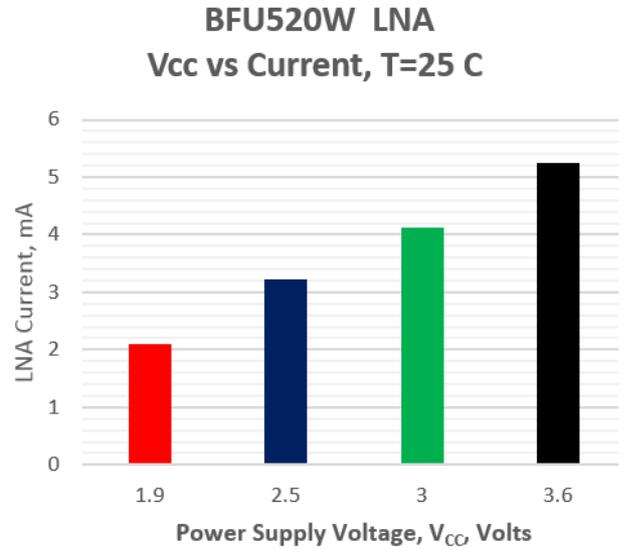
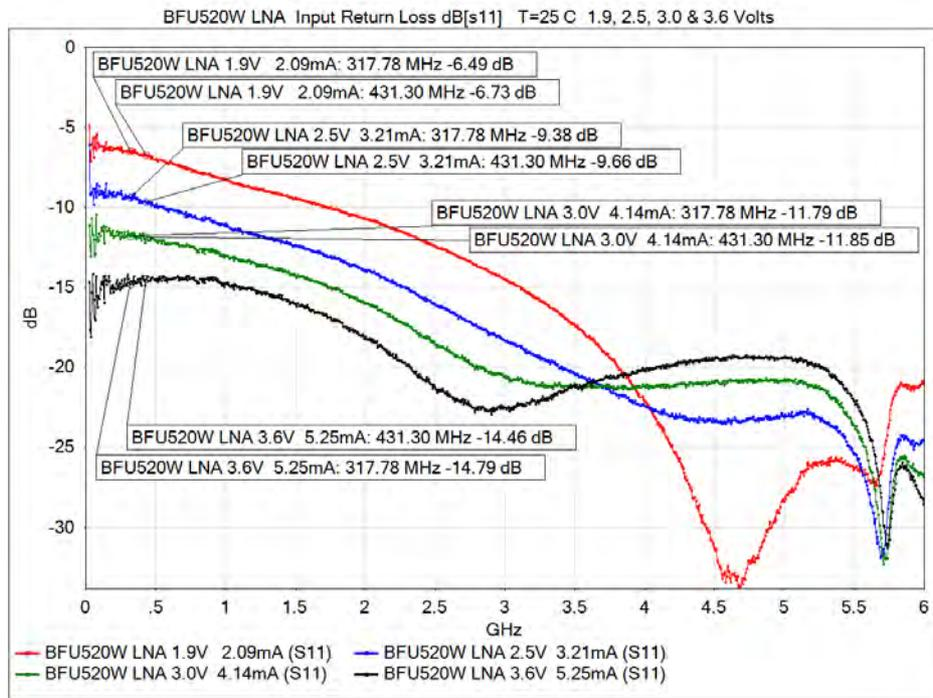
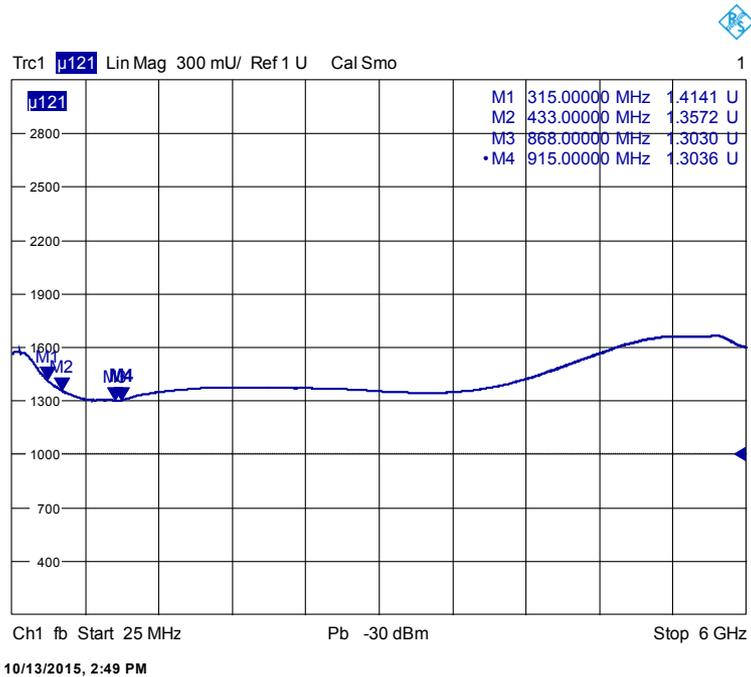
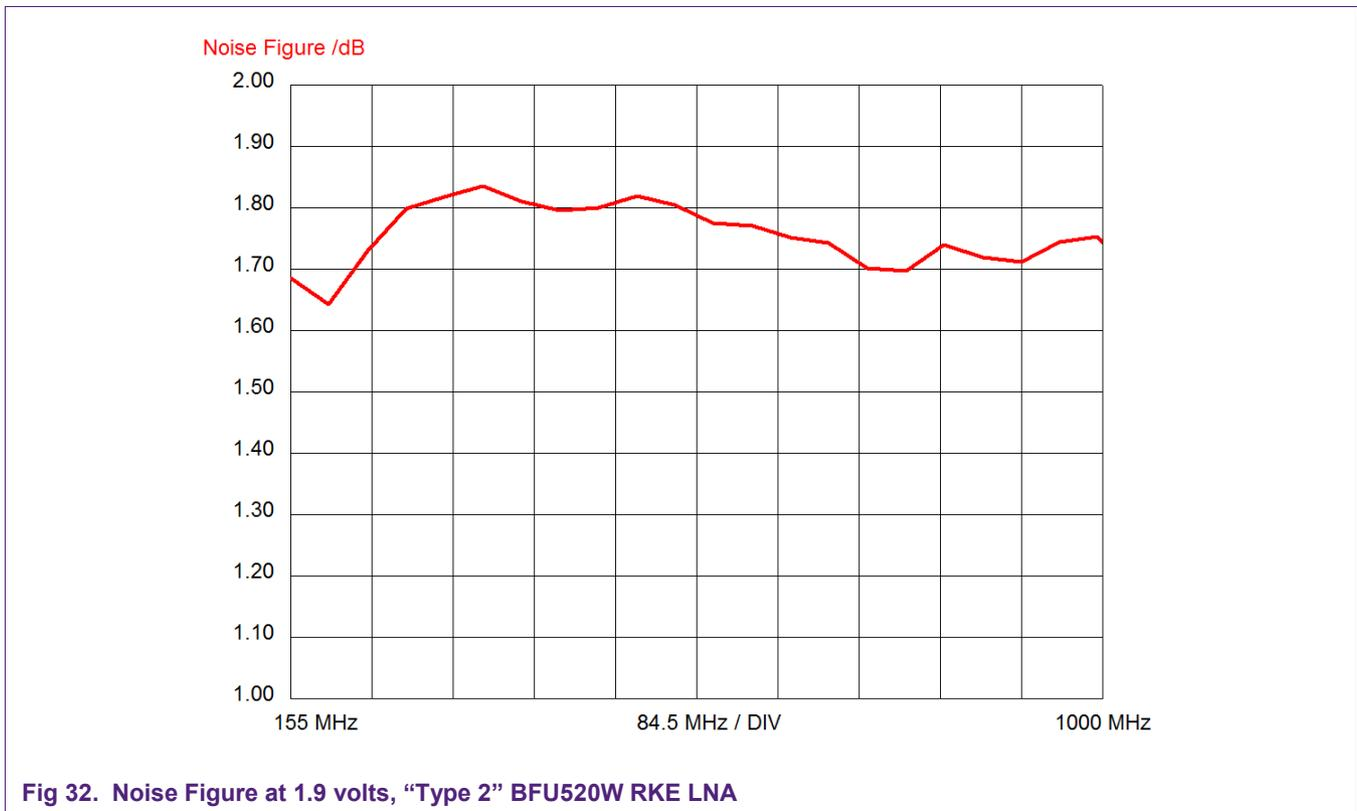

Fig 23. Variation in LNA current & collector-emitter voltage vs. battery voltage for a “Type 2” BFU520W RKE Keyfob LNA.
Fig 24. Input Return Loss vs Battery Voltage for a “Type 2” BFU520W RKE LNA, for 25 MHz – 6 GHz. Note, input match degrades as voltage decreases.
Fig 28. Stability factor  $\mu_1$  at 1.9 volts, “Type 2” BFU520W RKE LNA, for 25 MHz – 6 GHz.
Fig 32. Noise Figure at 1.9 volts, “Type 2” BFU520W RKE LNA
**Figure 23** shows LNA current variation over battery voltage range. **Figure 24** shows LNA Input Return Loss vs voltage, and **Figure 25, 26 & 27** show Gain, Reverse Isolation, and Output Return Loss vs. voltage, respectively. The stability factor  $\mu_1$  of the amplifier at each of the four voltages tested is shown in **Figures 28 – 31**. Noise Figure at each test voltage is shown in **Figures 32 – 35**.
| Fig 1. Overview of BFU5xxx family of RF Transistors.   | 3  | Fig 24. Input Return Loss vs Battery Voltage for a “Type 2” BFU520W RKE LNA, for 25 MHz – 6 GHz. Note, input match degrades as voltage decreases.  | 16 |
| Fig 5. Friis’ formula for calculation of overall or ‘cascaded’ noise figure of a receiver.   | 6  | Fig 28. Stability factor $\mu_1$ at 1.9 volts, “Type 2” BFU520W RKE LNA, for 25 MHz – 6 GHz.   | 18 |
| Fig 9. Close-in photo of PC board with ‘0402’ case-size resistors and capacitors used.   | 8  | Fig 32. Noise Figure at 1.9 volts, “Type 2” BFU520W RKE LNA  | 20 |